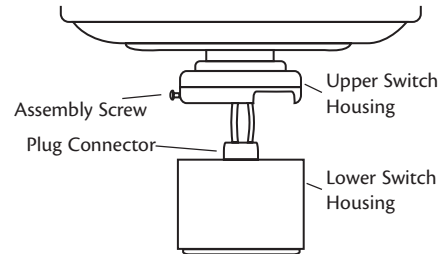

Figure 30 - Connecting the plug connectors
2. Place the lower switch housing assembly over the upper switch housing. Align the side screw holes in the upper and lower switch housings. Attach the lower switch housing to the upper switch housing with three #6-32 x 3/8" housing assembly screws. See Figure 30.